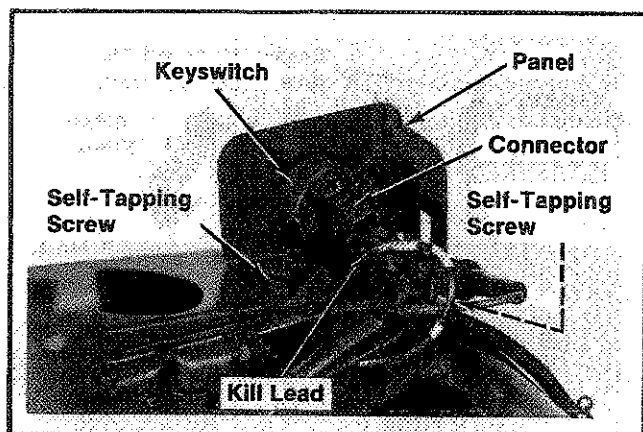

Figure 9-10. Removing Keyswitch.
2. Remove the connector from keyswitch. Remove kill lead from connector. Remove the self-tapping screws and panel with keyswitch. Refer to Figure 9-10.